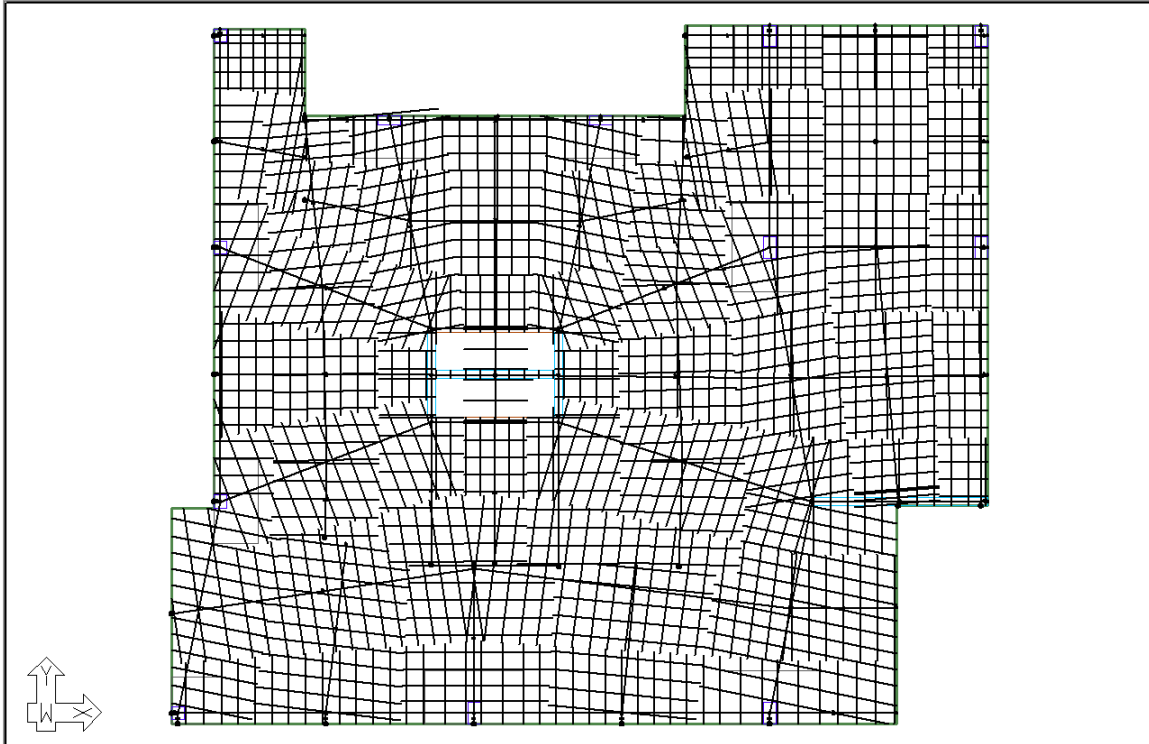

FIGURE 10-15
- Go to *Floor Design* → *Section Design* and click on the **Generate Sections**  icon. When the process is completed, design sections will be generated, as shown in **FIGURE 10-15**.